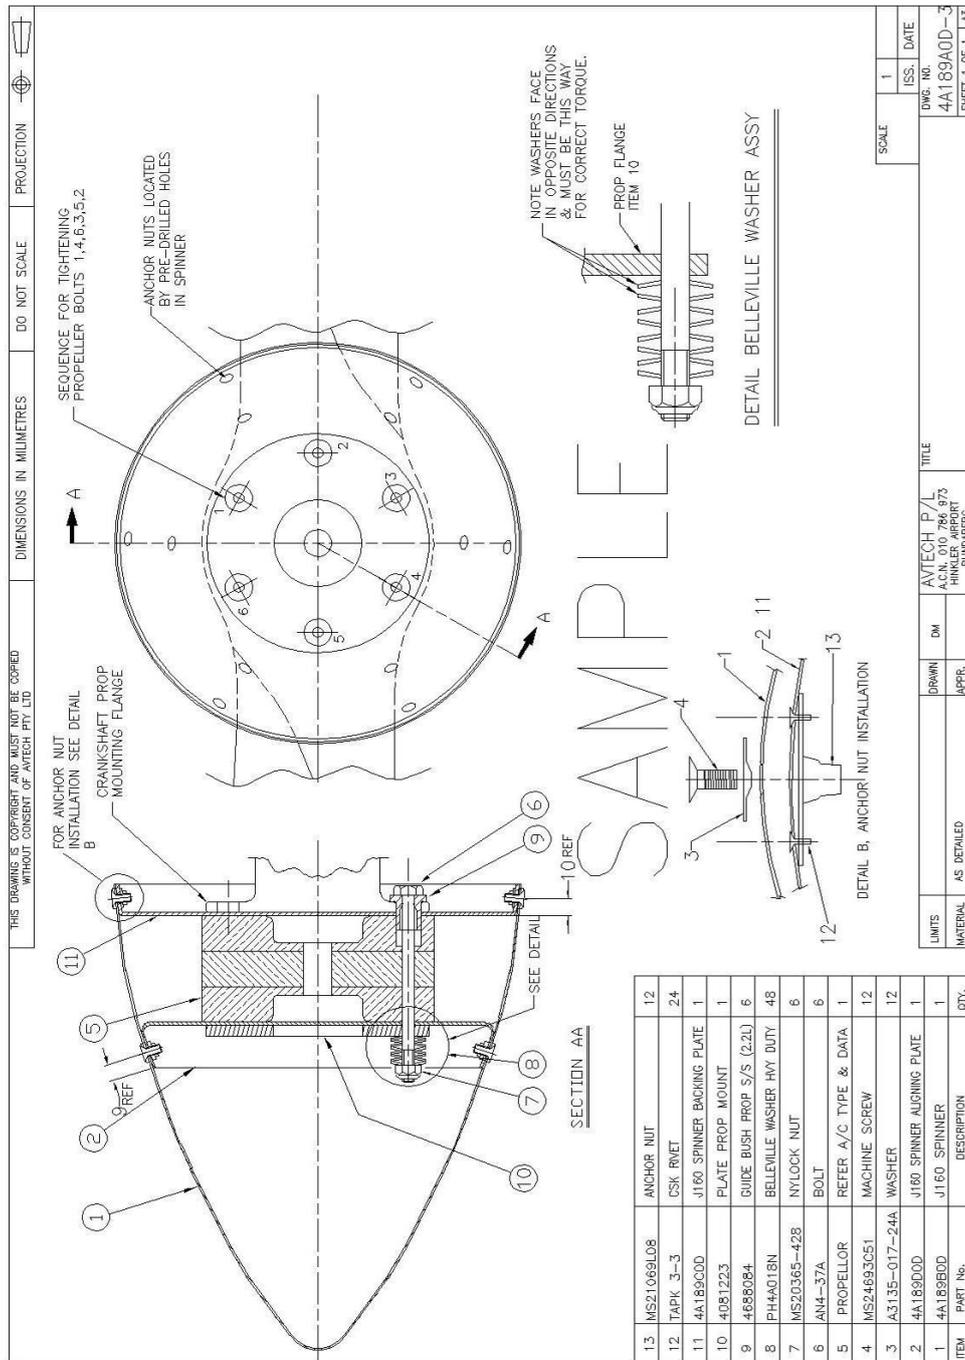

Figure 1 – Typical Propeller Installation
Figure 1 shows a typical propeller installation.
1. Figure 1 shows typical propeller installation details.
Figure 3 below shows an older propeller hub. Several small cracks are visible extending along the blade from the hub bolts. This type of damage is typically caused by over-torquing the propeller bolts (or not using Belleville washers on the installation as shown in Figure 1).
- Ensure the propeller is installed as detailed in Figure 1.
Figure 4 below shows the side of an older propeller hub. A crack running along the grain is visible. This type of damage is typically caused by over-torquing the propeller bolts (or not using Belleville washers on the installation as shown in Figure 1).